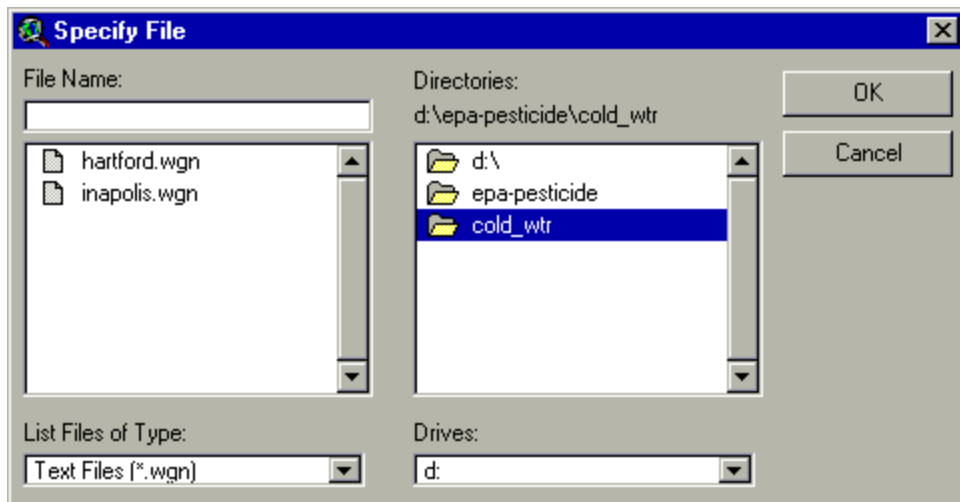

Figure 14.24
- c. A browser will be displayed if the user selects **Yes** (Figure 14.24).